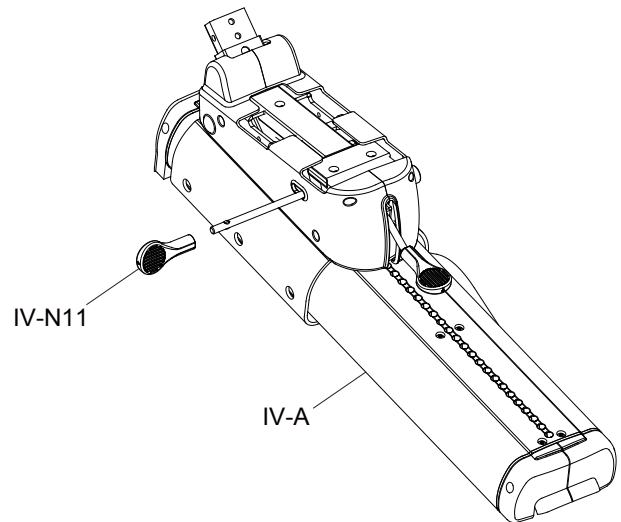

Figure 1
** After you finish assembling FIGURE 1, if the machine feels wobbly or is not fully stable, you can adjust (twist) the stabilizer feet (IV-C1) to balance the bike. Any questions, call us at 888-888-7985 (Ext 1).